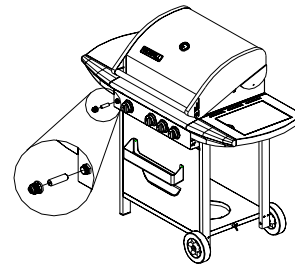

Figure 13
3. Replace the ignition battery cap after the battery has been installed. (Fig 13).